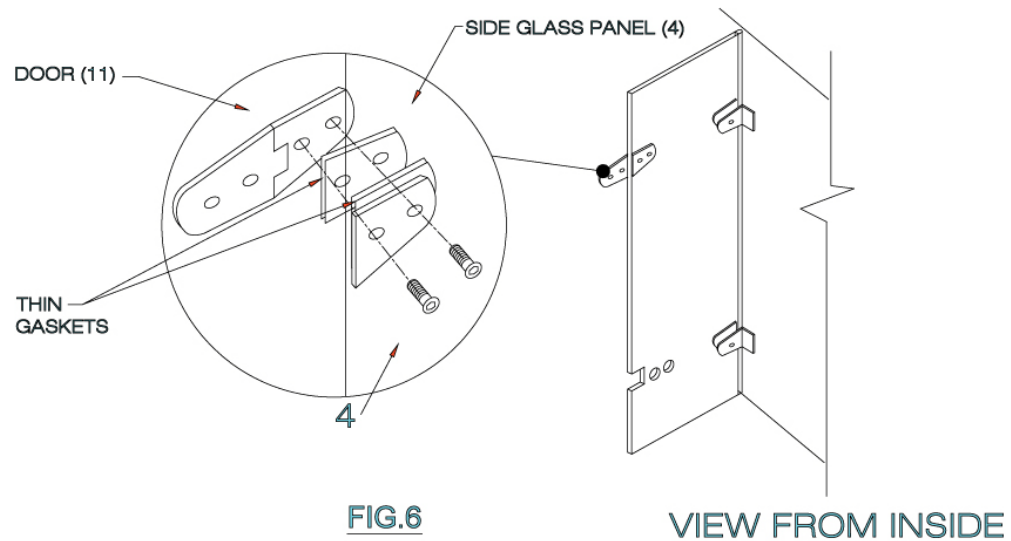

FIG.6
2. Screw the hinge to the side glass panel (#4) with a washer on each side of the panel. [SEE FIG.6]